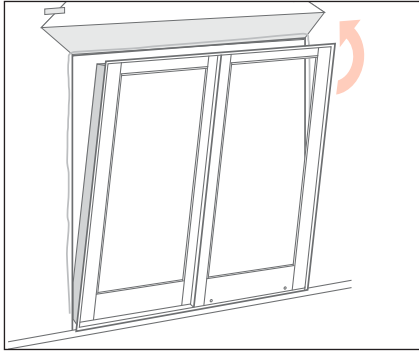

fig. 18
- a. **Setting the door:** Center the door in the opening at the sill and tip door into the opening for shimming. (**fig. 18**)